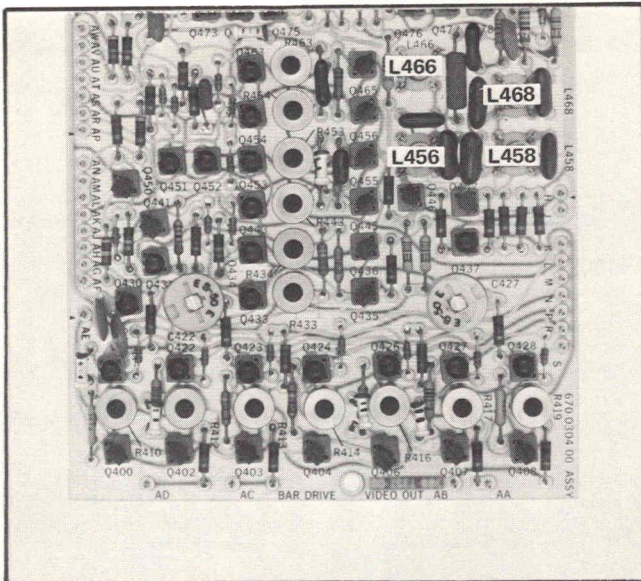

Fig. 5-28. Bar Drive and Video Out board adjustment locations.
f. ADJUST—L466 and L456 (see Fig. 5-28) for a risetime of 115 ns within 15% with less than 2% aberrations.
d. ADJUST—L458 and L468 (see Fig. 5-28) for the best square corner on the leading edge of the white bar with aberration less than 2% peak to peak.